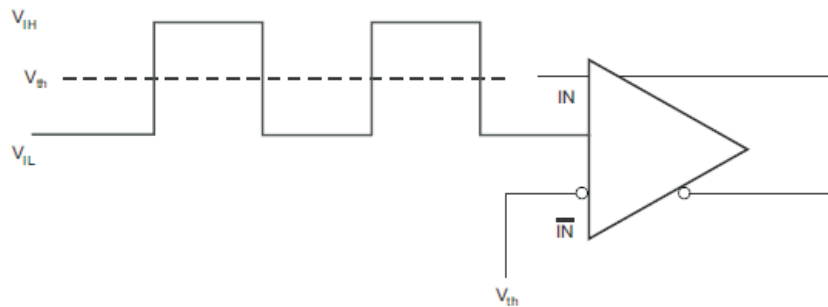

Figure 6-3. DC Coupled LVCMOS Input During Device Test
2.5-V LVCMOS INPUT (See Figure 6-3)